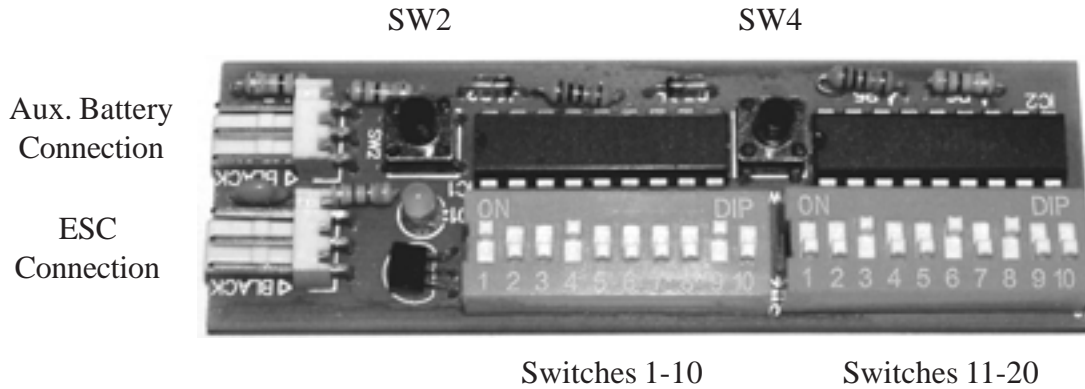

Figure 1: Programmer Layout
Step 1. Plug the Speed Controller signal lead into the ESC connection on the Programming Card, taking care to note the proper polarity. The word “Black” is printed on the edge of the connector that corresponds to the black or brown wire of your ESC lead. The ESC connection is the one closest to the 2 DIP switches as shown in Figure 1 above.
Step 2. Make sure that there is a motor attached to the output leads of the ESC, and then plug a battery pack into the input leads of the ESC. If you have an Opto-Coupled model ESC, you will need to plug an additional 4-cell receiver pack battery into the Auxillary Battery Connection shown above in Figure 1. The word “Black” is printed next to the edge of the connector to show the proper polarity for plugging in the auxillary battery.